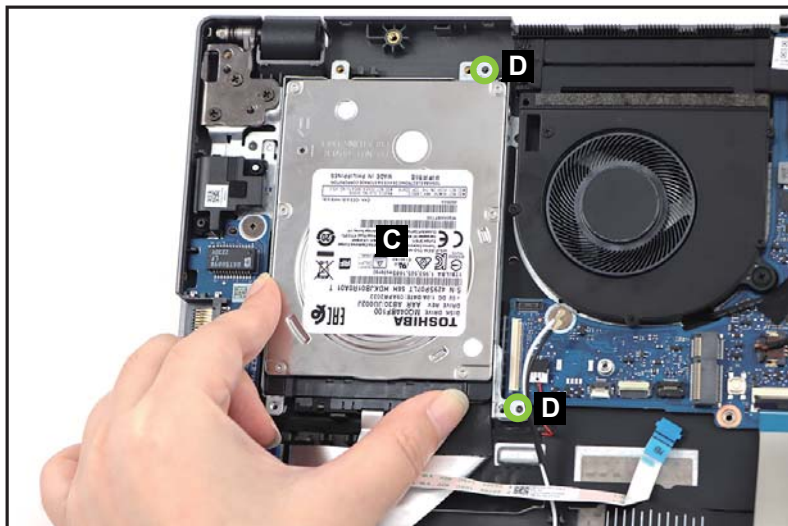

Figure 1-28. HDD Module Removal
3. Lift the HDD module assembly (C) to release it from the guide pins (D) on the top assembly (Figure 1-28). Then remove it from its compartment.